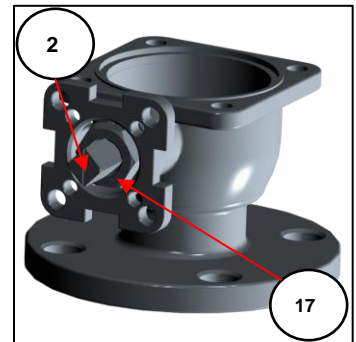

Figure 4-6
- 4.1.8 Remove the packing nut (Item 17) from the valve stem (item 2) by turning it counterclockwise. (Figure 4-6)